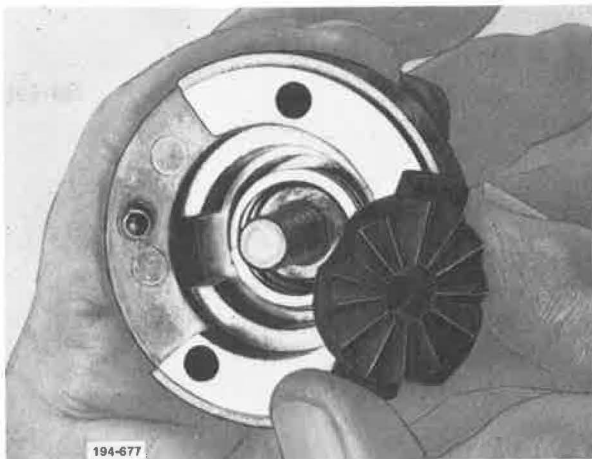

Figure 5-373. Removing Detent Wafer
5. Remove detent wafer from cover. See Figure 5-373.